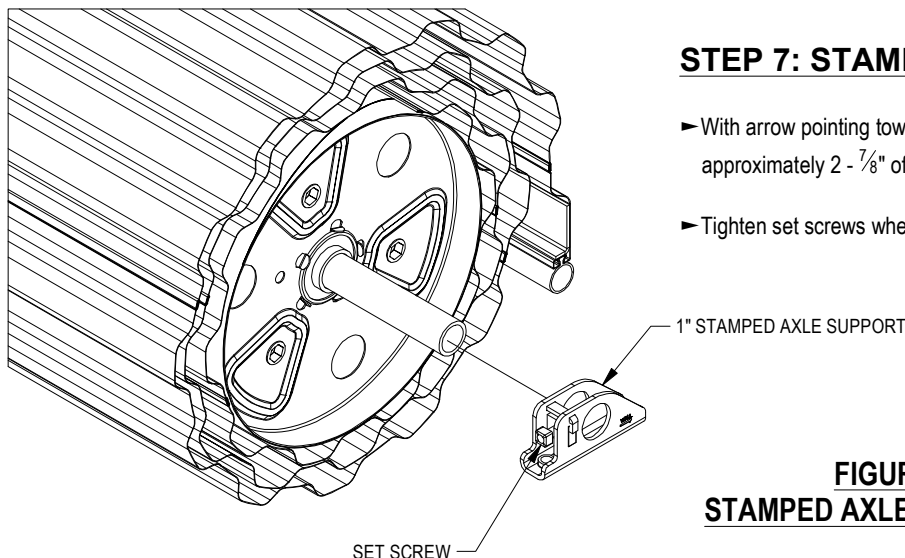

FIGURE 14:
- With arrow pointing toward wall, slide stamped axle support over axle until approximately 2 - $\frac{7}{8}$ " of axle is outside of stamped axle support. **See Figure 14.**